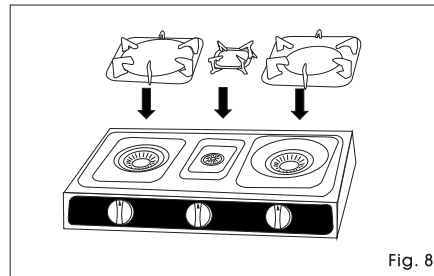

Fig. 8
2. When unpacking, make sure that all of the parts of the gas cooker are included. Assemble the parts as show in.(Fig. 8 )